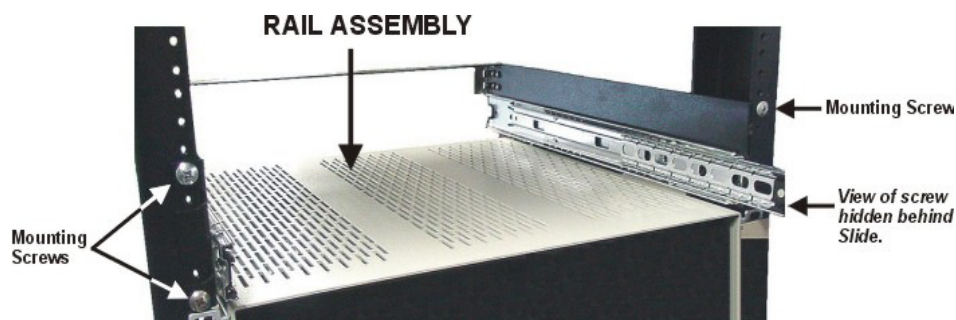

Figure 3-2: Rail Assembly
3.2.2 Install Rail Assembly on to rack. Ensure that the assembly is flush against the rack and level. Next fasten the four mounting screws and tighten firmly. (Refer to Figure 3-2.)